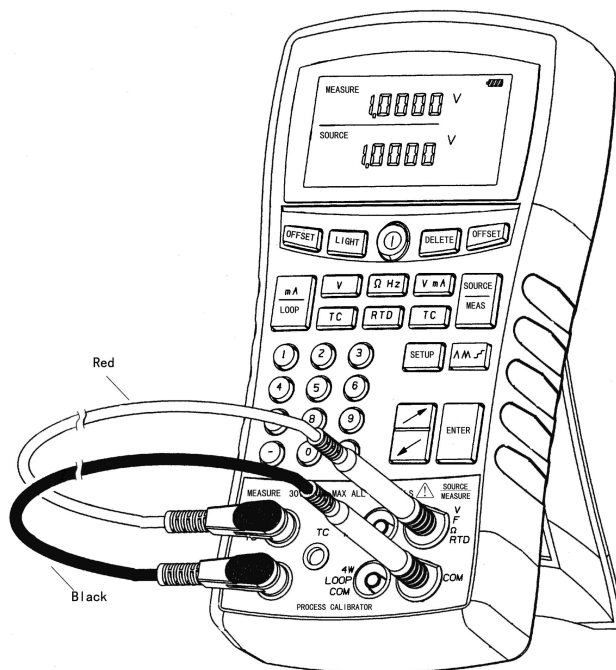

Figure3- 1 Source/Measure V DC
- (1) Press  to turn on the EDEKA TC-200 Multi-function process calibrator.
- (2) Clearing offset of measuring V DC in the upper display and sourcing V DC in the lower display according to '10 Clear Function'.
- (3) Press  to select DC voltage.
- (4) Press  for Source mode. Press  to select sourcing V DC.
- (5) According to the flashing jacks, connect the EDEKA TC-200 Multi-function process calibrator's voltage output to its voltage input as Figure3- 1 shows.
- (6) Enter the desired output value by press numeric keys on the keypad and press  to begin sourcing V DC.
- (7) The EDEKA TC-200 Multi-function process calibrator is simultaneously sourcing V DC and measuring V DC. You should see the measurement readings in the upper display, and the active source value in the lower display.